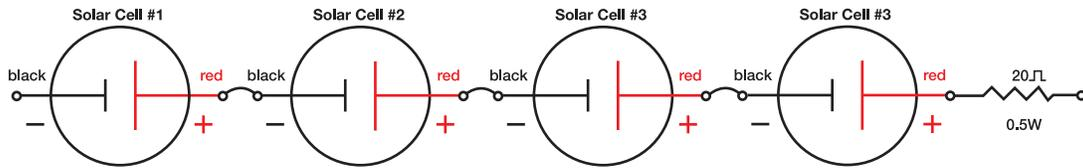

Figure 2. Series assembly of four solar cells and a resistor.
1. To connect the solar cells in series, connect them as follows (see figure 2):